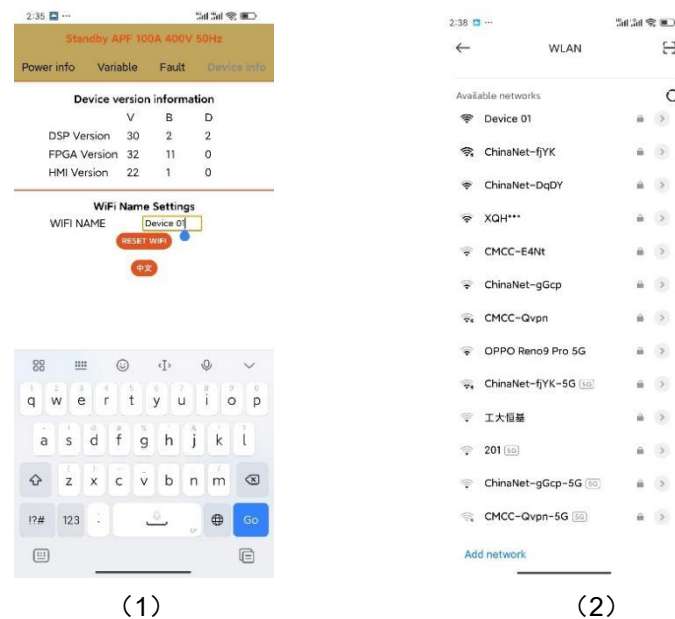

Figure 13 Change the Name of WIFI
3. In the device information, you can customize the hotspot name. Press Enter to confirm the modification as shown in Figure 13(1). After clicking the Restart WIFI button, the WIFI will be restarted and the name will be changed as shown in Figure 13(2).